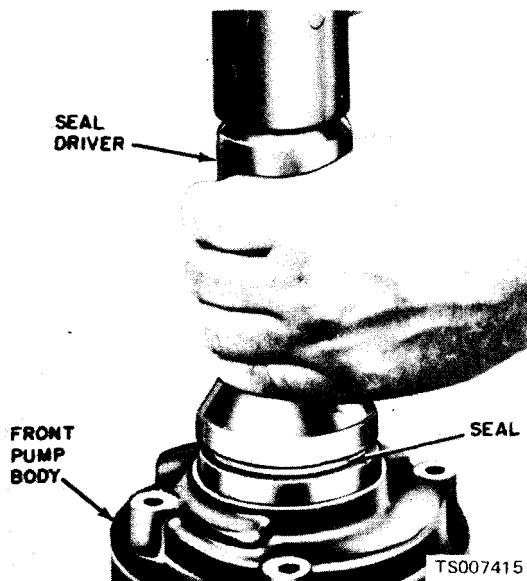

Figure 7-27. Installing Front Pump Seal.
(1) Install new oil seal into front pump cover, using a seal driver as shown in figure 7-27.